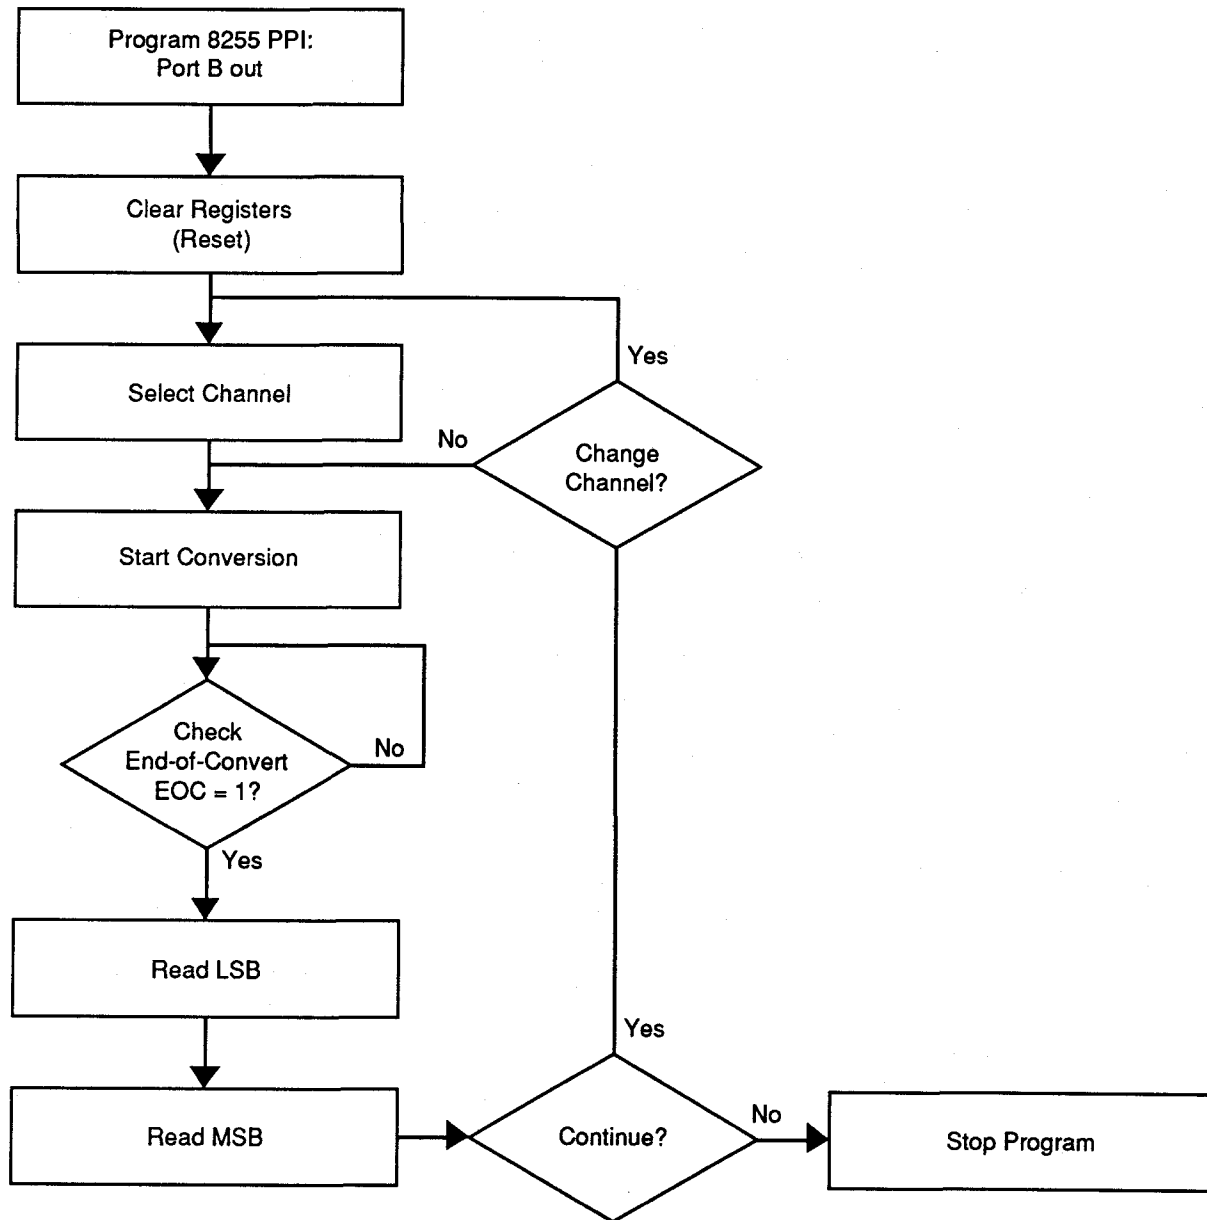

Fig. 4-4 — Single Conversion Flow Diagram
• Single Convert Flow Diagram (Figure 4-4)